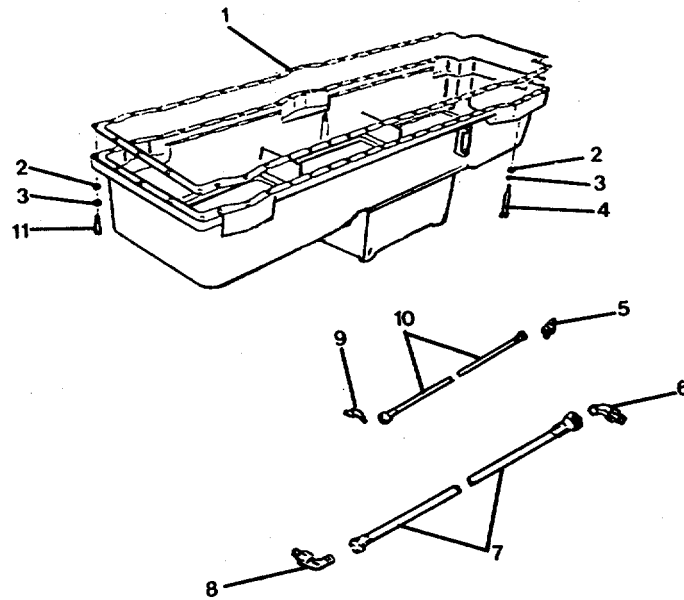

FIGURE 2-60. *Oil Pan and Adapter Group.*
- a. Remove two pipe to tube elbows (5 and 9, FIG. 2-60). Remove nonmetallic hose (10) from oilpan. Remove electrical connections.
- b. Remove fuel line elbow (6) and male adapter elbow (8). Remove metallic hose (7) from oil pan.
- d. Install male adapter elbow (8, FIG. 2-60), metallic hose (7), and fuel line elbow (6).
- e. Install pipe to tube elbow (9), nonmetallic hose (10), and pipe to tube elbow (5). Connect electrical connections.